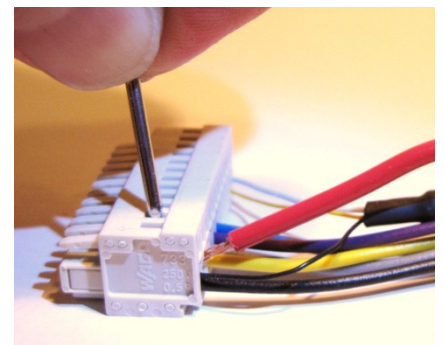

Figure 5
5. Insert a thin tool into the correct receptacle, as shown in Figure 5, and press down firmly on the tool to release the wire clamp. Ensure any debris or wire is removed from the wire receptacle.